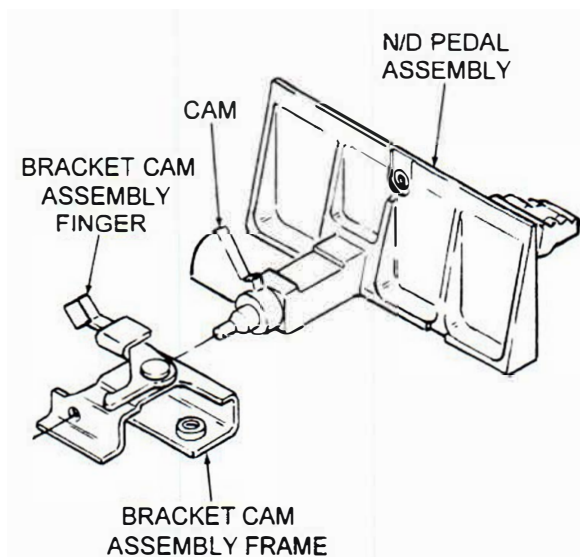

Figure 17. Bracket Cam Assembly and N/D Pedal
- D. *See Figure 17.* Inspect finger of bracket cam assembly for breaks or wear and for a bent or twisted frame. Finger should move back and forth freely. If these conditions exist, bracket cam assembly needs replacement. These conditions may result from clutch half overload gear hang up on drive balls of rear axle. Refer to section 5.4.3 for rear axle service.
- E. *See Figure 17.* Inspect cam of N/D pedal assembly for cracks or loose fit on shaft knurling. Replace N/D pedal assembly if either condition exists.